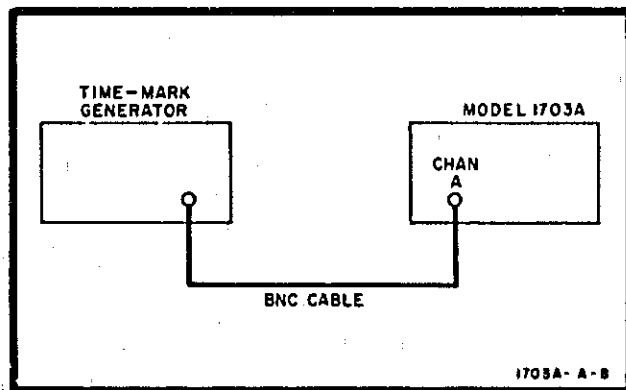

Figure 5-12. Delay Time Linearity Test Setup
- a. Set instruments up as shown in figure 5-12.